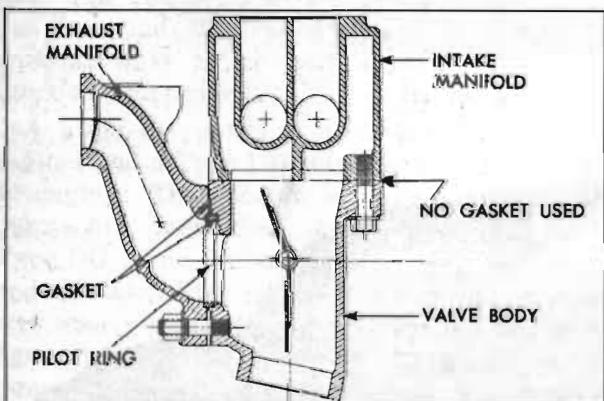

Figure 3-11—Sectional View of Joints Between Valve Body and Manifolds—Series 40-50
1. On Series 40-50, install the valve body on the exhaust manifold with a new ring gasket in pilot ring recess in body and a new gasket between body and manifold; make sure that pilot ring is in place. See figure 3-11. Leave attaching stud nuts snug but not tight.